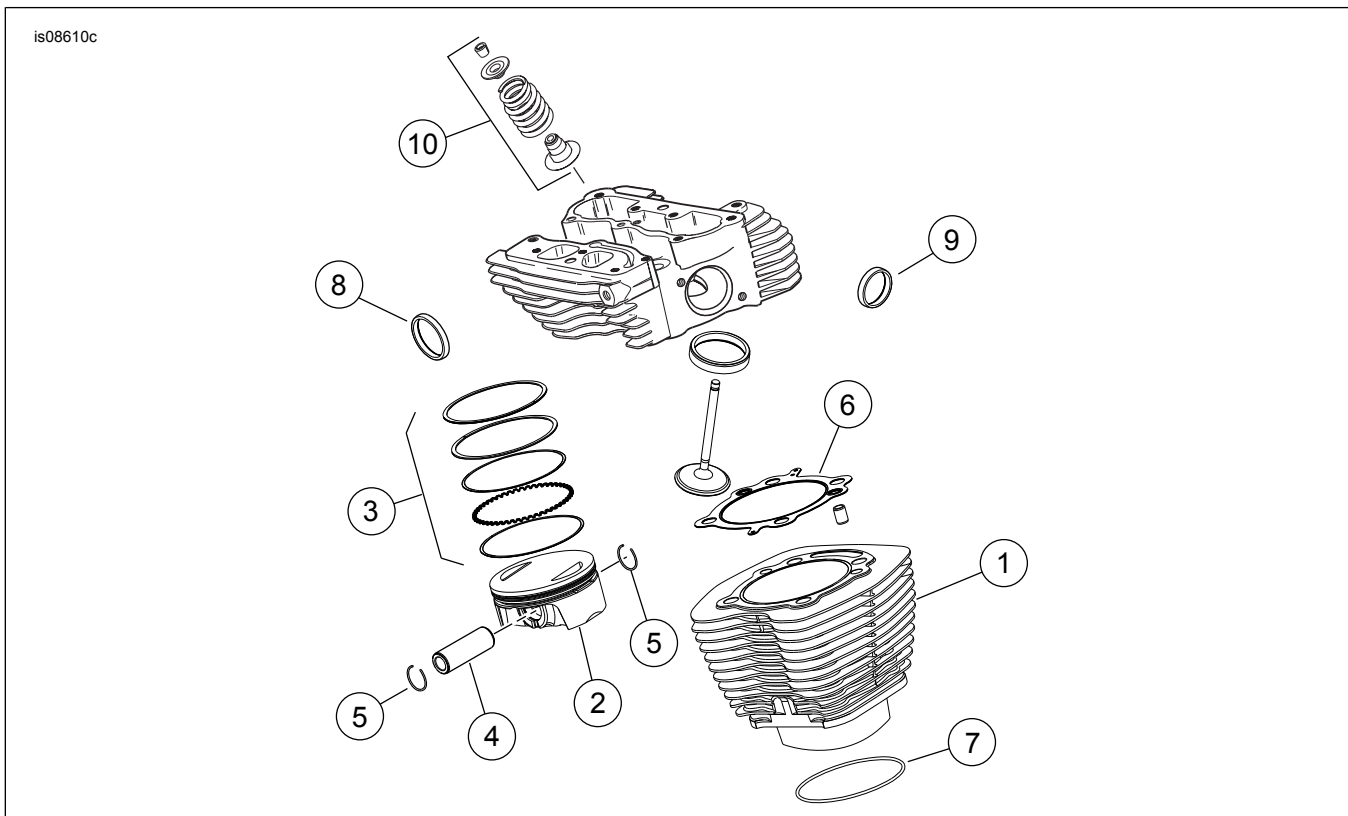
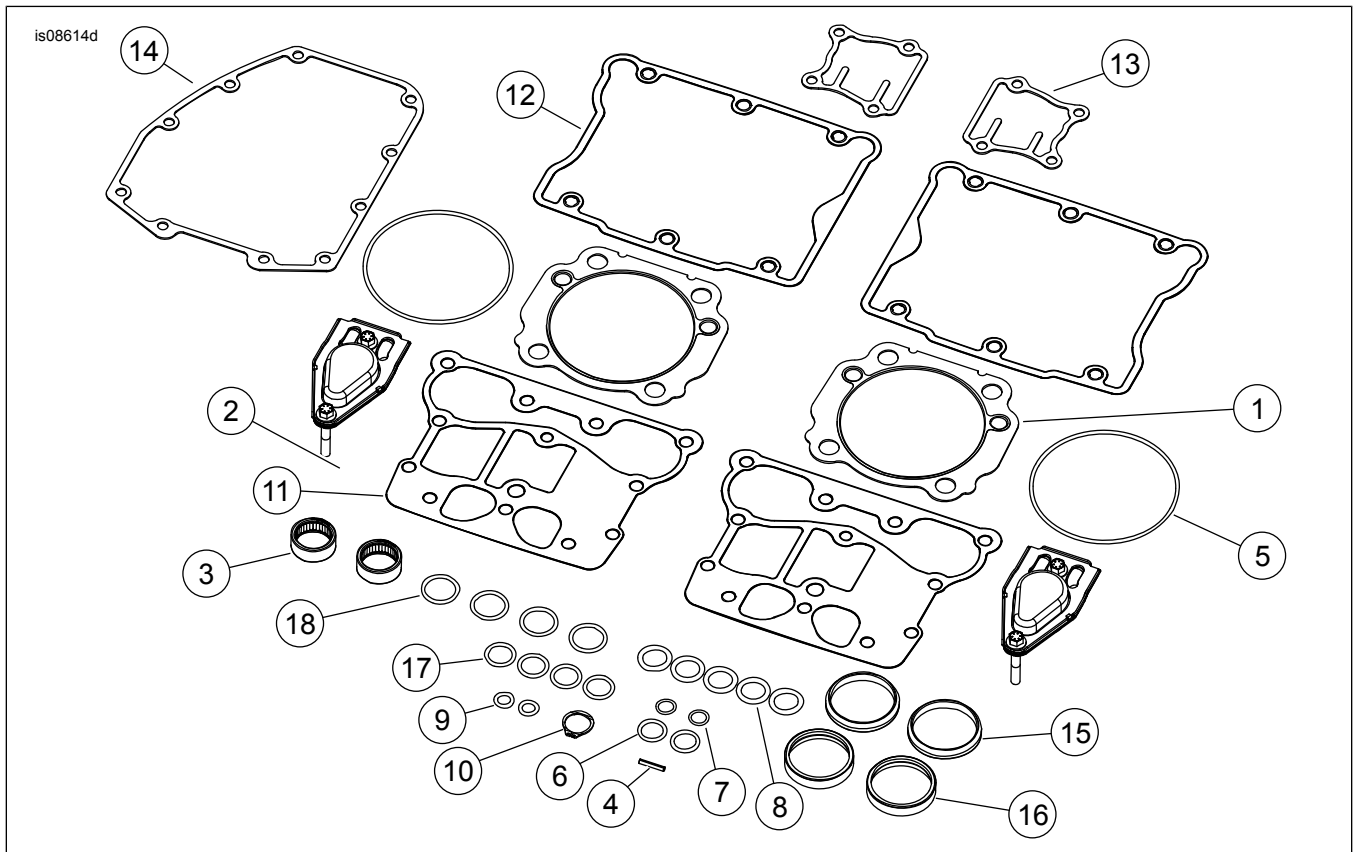

Figure 1. Service Parts: Screamin' Eagle Twin Cam 110 (1800 cc) Conversion Kit - Stock Heads
Figure 4. Service Parts: Screamin' Eagle Twin Cam 110 (1800 cc) Conversion Kit - Stock Heads
See Figure 1 to Figure 4, and Table 1 to Table 4.
1. See Figure 4. Install new inner cam bearings included with this kit.
2. See Figure 1 through Figure 4. Assemble cams to cam plate and engine top end using parts from kit. Refer to appropriate ENGINE sections in service manual.